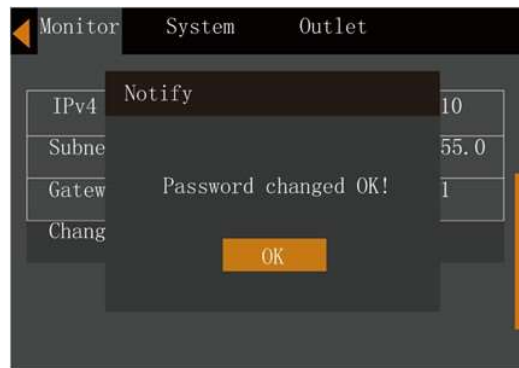

Figure 5-29 Password changed successfully
6. After the confirming the new password, press the **Enter** key; at this point a system prompt appears indicating that the password has been changed successfully, see Figure 5-29.